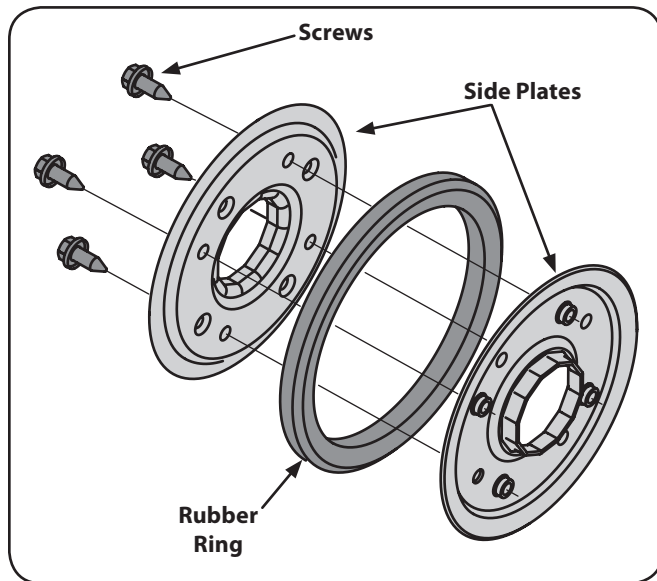

Figure 7-10
- Remove the four screws from the friction wheel assembly. See Figure 7-10.